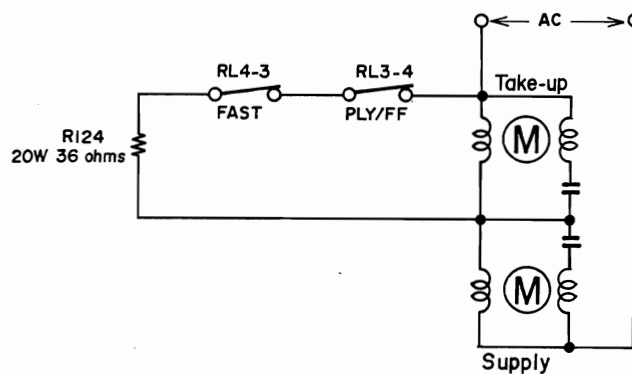

Fig. 6-43
Fig. 6-43 shows how the take up reel motor and the supply reel motor work. Since R124 36 ohms is connected in parallel to the take up reel motor, the torque of the supply reel motor is increased, and the tape is wound by the supply reel motor. If the counter indicates 0:00:50 from this position, "H" signal is issued from IC2 (12) (relay control). "H" enters the base of TR42 through R115 to